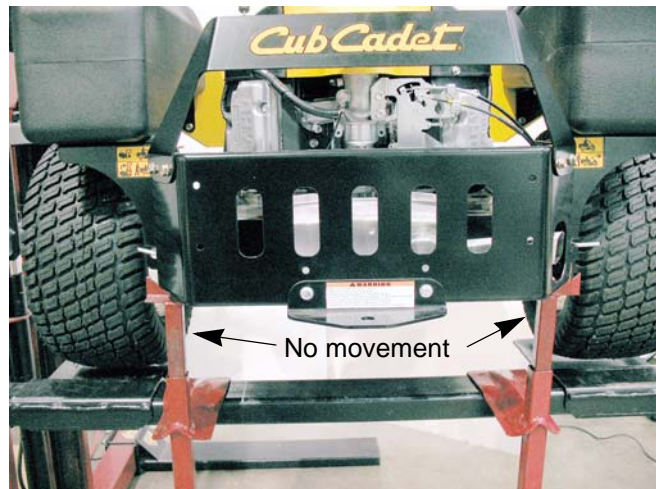

Figure 5.29
8. Watch both rear tires for movement. See Figure 5.29.